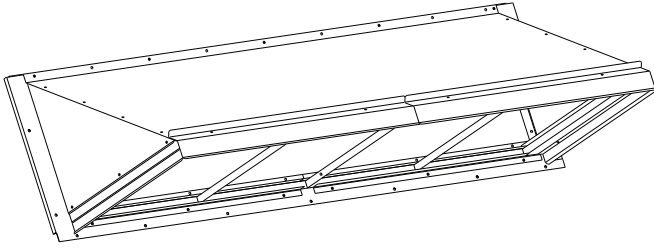

Fig. 24 — Hood Assembly-Completed
5. Apply seal strip to mating flange of the hood (see Fig. 24).